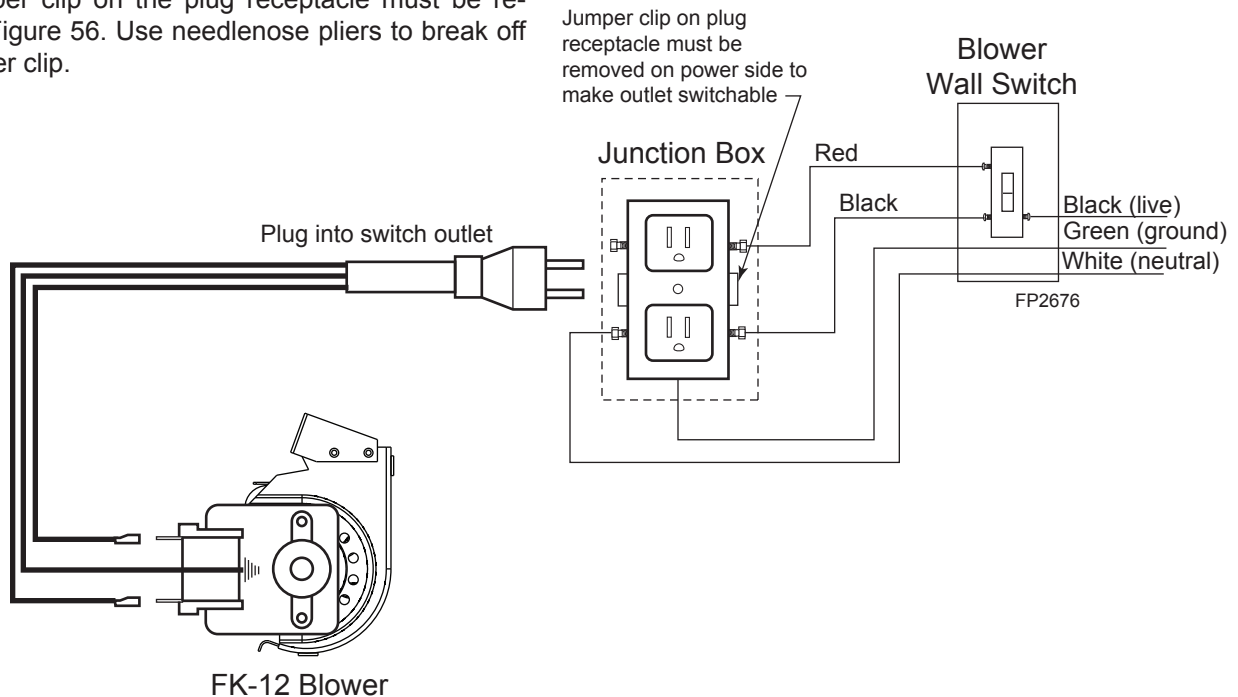

Figure 56 -
3. The jumper clip on the plug receptacle must be removed. Figure 56. Use needlenose pliers to break off the jumper clip.